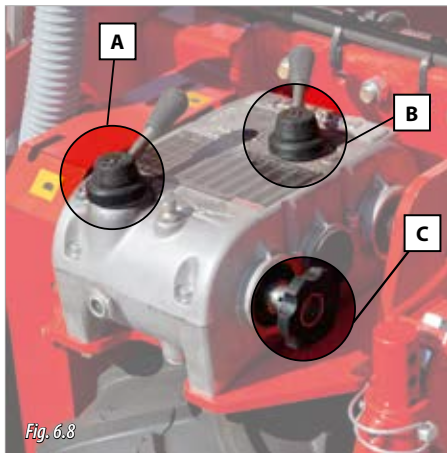

Fig. 6.8
- 2- Place the lever "A" (fig. 6.8) in the correct position and turn the wheel (C, Fig. 6.8) in the forward direction until the gear clutches in. Alternatively, turn the drive wheel using your foot in the forward direction. Repeat this operation using the lever "B".